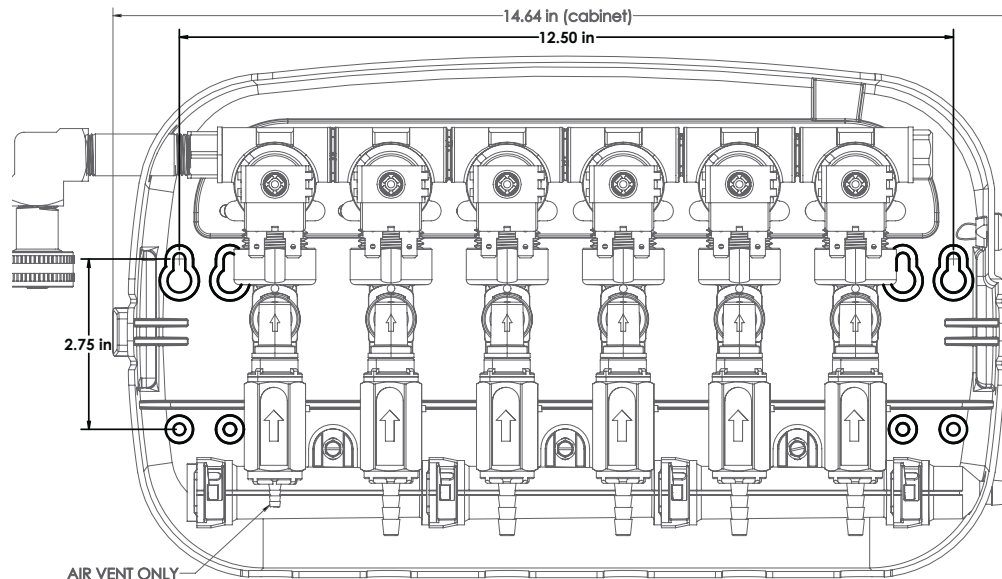

Figure 1
- Unit to be secured at all 4 positions shown above in Figure 1
- Screw hole centers are shown above in Figure 1